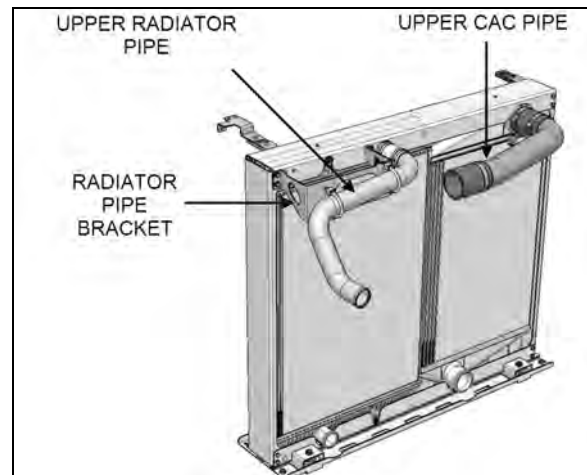

**FIGURE 42: FAN SHROUD PARALLEL TO SUPPORT**
- The bottom of the shroud should fit flat (parallel) against the shroud lower support (Figure 42).